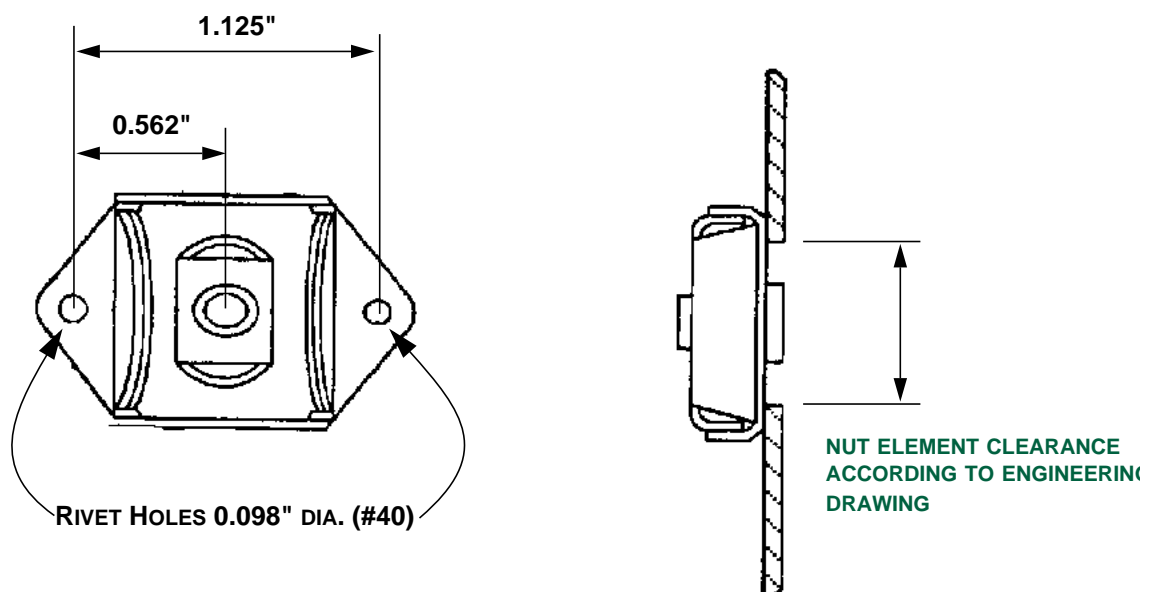

FIGURE 10 - INSTALLATION DIMENSIONS FOR B0204043 ANCHOR NUTS
- 5.2.7.2 The relevant engineering drawings and Figure 10 show locations of rivet holes for DSC 243 anchor nuts.